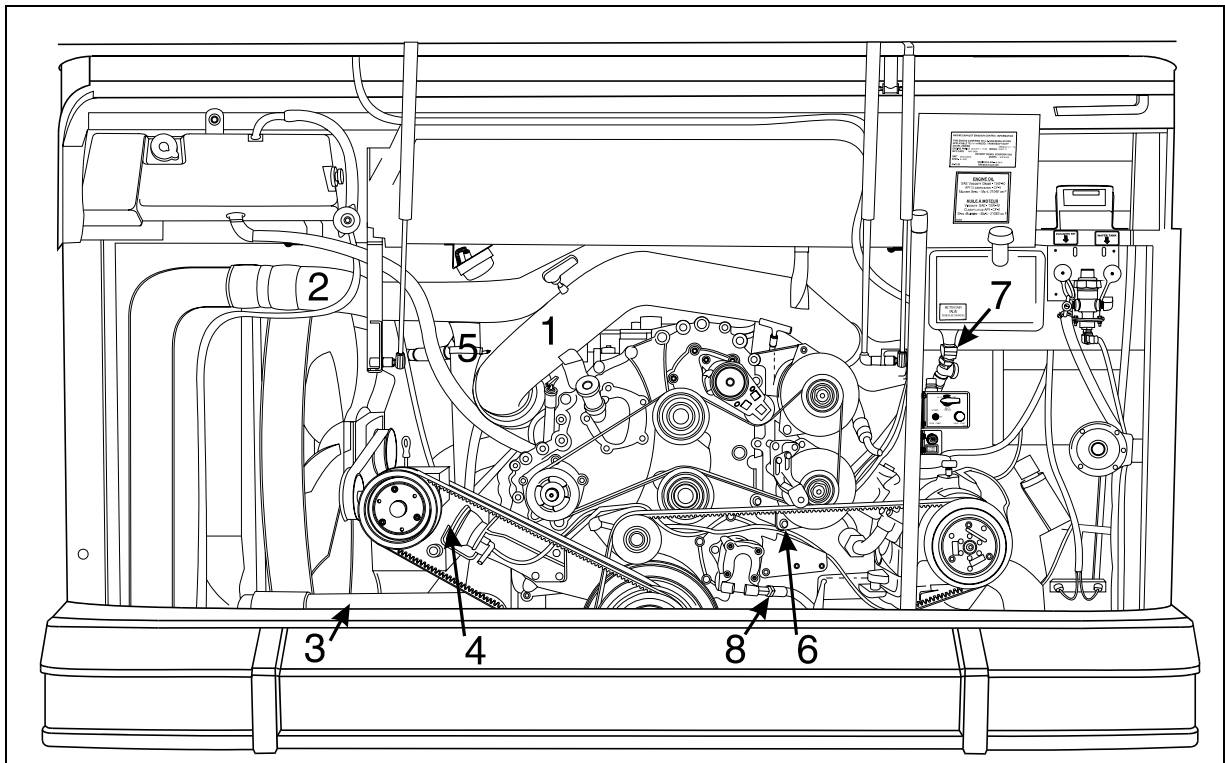

FIGURE 16: ENGINE COMPARTMENT
7. Disconnect and remove the air intake duct mounted between the air cooler outlet and the engine intake (2, Fig. 16).
8. Disconnect and remove section of coolant pipe assembly mounted between the radiator outlet and the water pump inlet (3, Fig. 16).
11. Dismantle the air bellow from the upper bracket of the fan-drive assembly tensioner. Remove the upper bracket (4, Fig. 16).
13. Disconnect and remove the air intake duct mounted between the turbocharger outlet and the air cooler inlet (5, Fig. 16).
19. Disconnect the block heater connector above the power steering pump (6, Fig. 16).
21. Disconnect the oil delivery hose from the valve located at the reserve tank drain (7, Fig. 16).
22. Disconnect the power steering pump supply and discharge hoses. Cap hose openings immediately to limit fluid loss. Remove retaining clips from cradle (8, Fig. 16).
1. Remove air intake duct (1, Fig. 16).
2. Remove the air intake duct mounted between the air cooler outlet and the engine intake (2, Fig. 16).